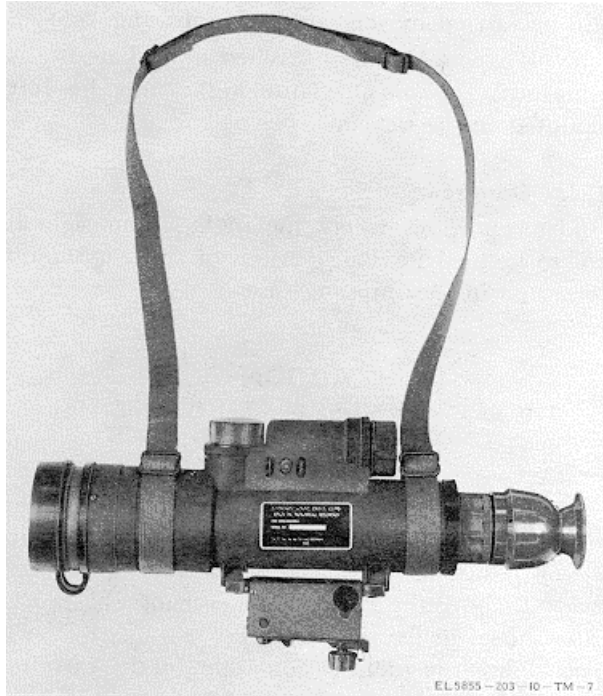

Figure 2-5. Carrying straps attached to night vision sight.
- c. *Carrying Straps.* The night vision sight may also be carried by the carrying straps (fig. 2-5).